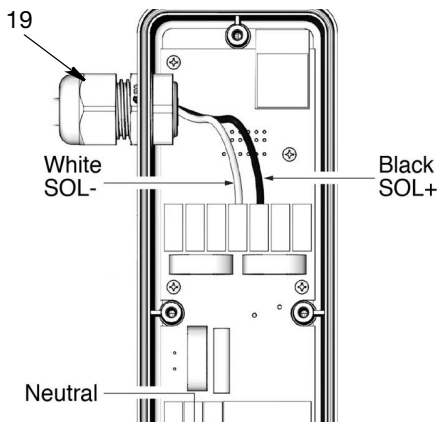

FIG. 8
11. Inside the PAC enclosure (2), connect the neutral (white) wire to SOL - (white) and the line (black) wire to SOL + (black) in the terminal block (FIG. 8).